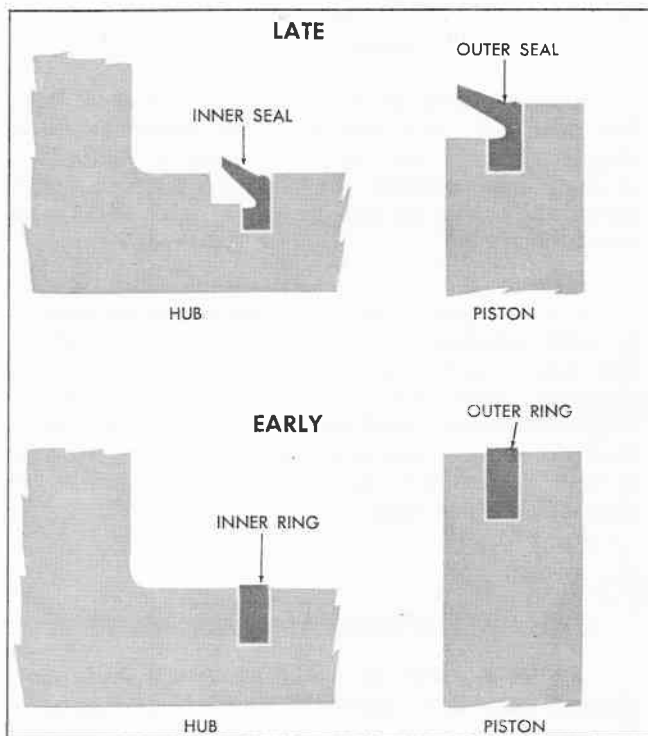
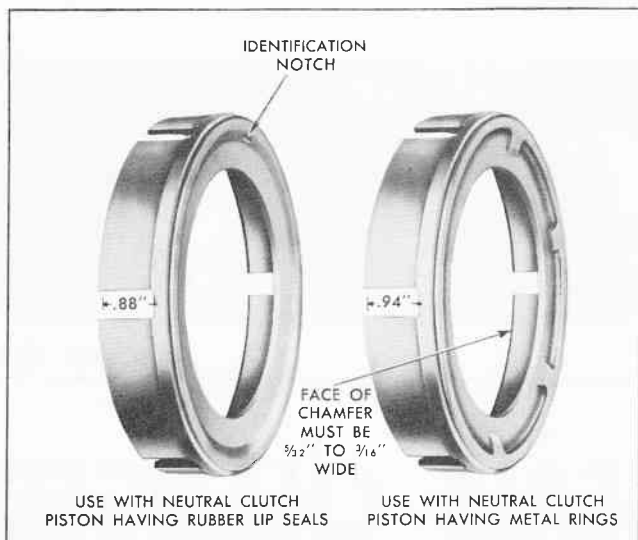

Fig. 1 Early and Late Type Hub and Piston
Fig. 2 Early and Late Type Neutral Clutch Drum
1. Overrun Clutch-- The new seals for the overrun clutch piston are now in production. In conjunction with the use of new seals, a new front pump assembly and overrun clutch piston assembly went into production. The difference in design of the seal grooves in these parts can be seen in Fig. 1.
2. Reverse Clutch-- The new seals for the reverse clutch piston are now in production along with a new rear pump (to accommodate the inner seal) and a new clutch piston (to accommodate the outer seal). The seal grooves in the early and late hubs are shown in Fig. 1. The ring grooves in the early and late reverse clutch pistons are very similar and both look like the late type in Fig. 1. The only sure identification of the early and late reverse clutch pistons is to test the fit of the metal oil ring in the groove. The metal ring will not fit in the groove designed for the rubber seal since this groove is slightly narrower.
3. Neutral Clutch-- The new seals for the neutral clutch will go into production in the near future. Along with the change in seals a new case center support and neutral clutch piston will be required in production. The difference in design of the seal grooves can be seen in Fig. 1. Also required is a new neutral clutch drum (Fig. 2).